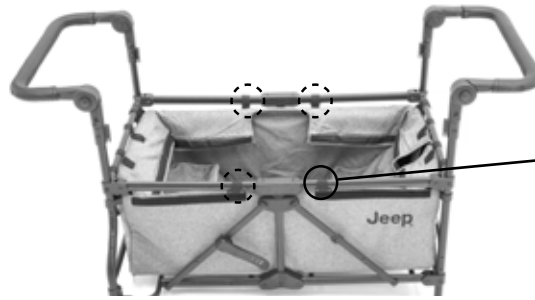

Fig. 1A
- Attaching buckle straps: Locate the 4 buckle straps on the sides of fabric liner (Fig. 1A).